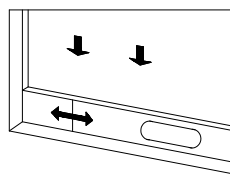
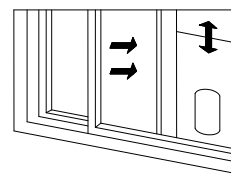

Figure 2
Figure 3
- 1) Half open the window, and mount the window sealing plate assembly to the window (as shown in Figure 2 and Figure 3); the assembly can be placed in horizontal and vertical direction.